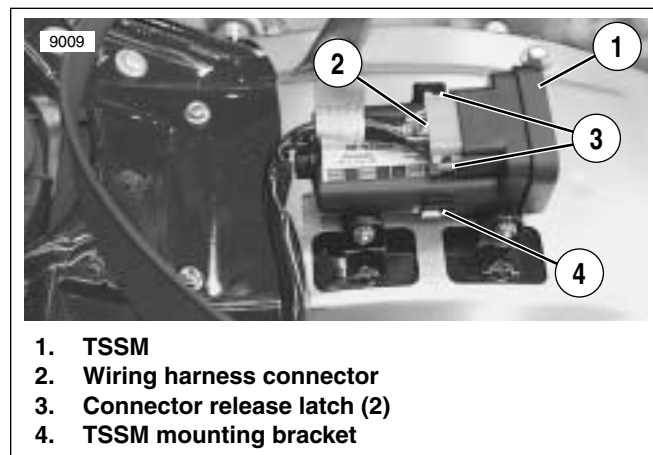

Figure 8-51. Turn Signal Security Module Mounting
5. See Figure 8-51. Squeeze wiring harness connector release latches and carefully pull wiring harness connector out of connector socket on TSSM.